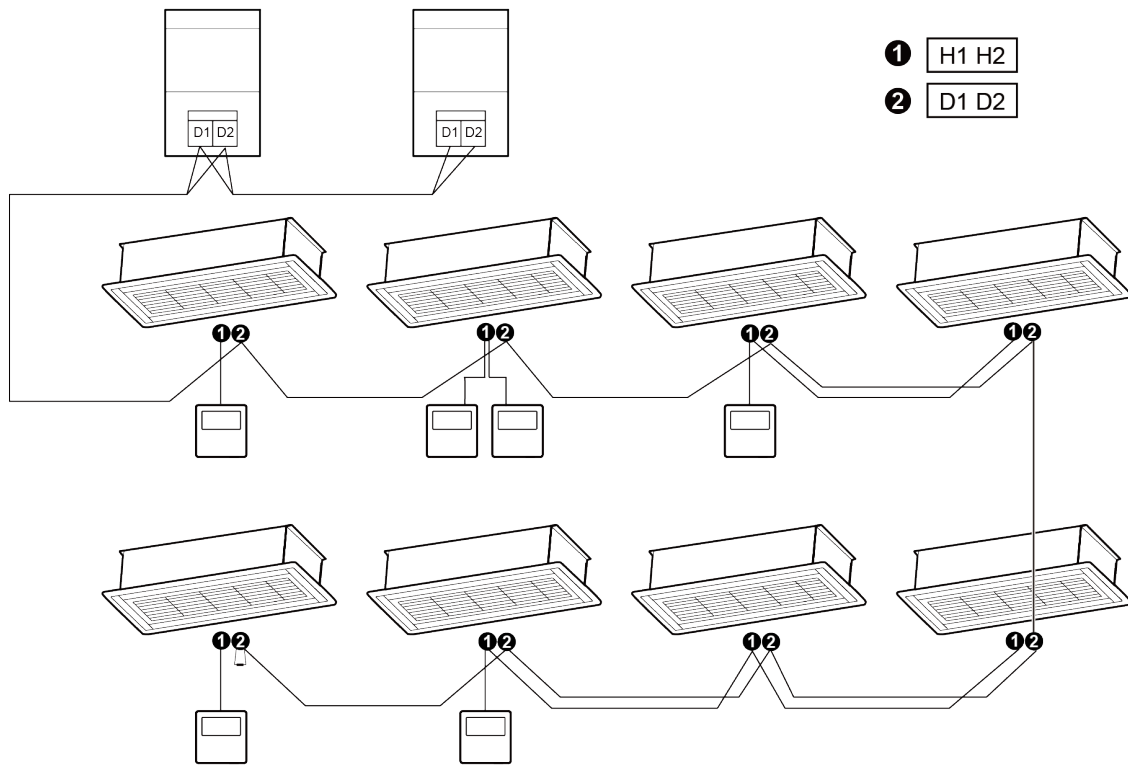

Fig.5.5.1
- (1) Communication wire of indoor unit and outdoor unit (or indoor unit) is connected to D1, D2.
- (2) Wired controller is connected to H1, H2.
- (3) One indoor unit can connect two wired controllers that must be set as master one and slave one.
- (4) One wired controller can control 16 indoor unitS in maximum at the same time. (As shown in Fig.5.5.1).